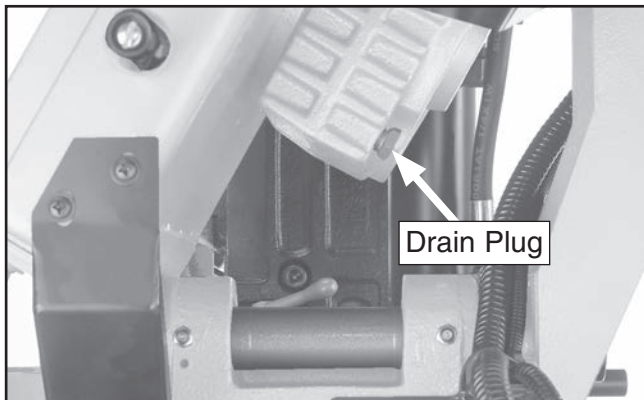

Figure 77. Location of drain plug.
5. With drain pan positioned to catch oil, remove drain plug (see **Figure 77**).